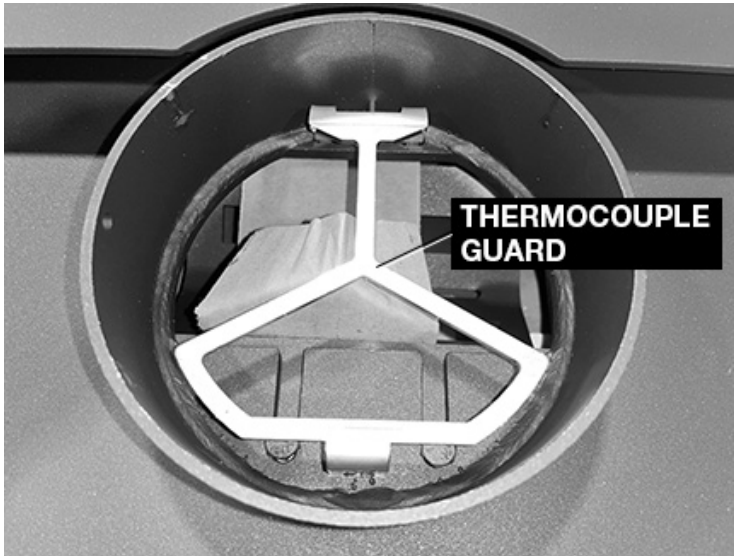

Figure 9: Thermocouple guard.
1. Remove the thermocouple guard from inside the flue collar of the unit. Figure 9